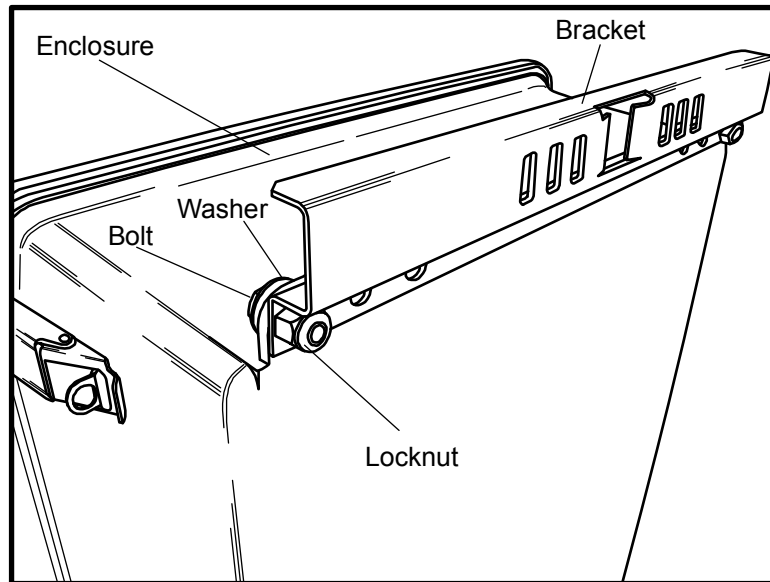

FIGURE 4-12. Attaching the pole mount bracket
1. Position a bracket at the top of the enclosure as shown in FIGURE 4-12. Secure it with a bolt, washer, and locknut at each end. Attach the lower bracket in the same manner, rotating the bracket so it extends below the enclosure.